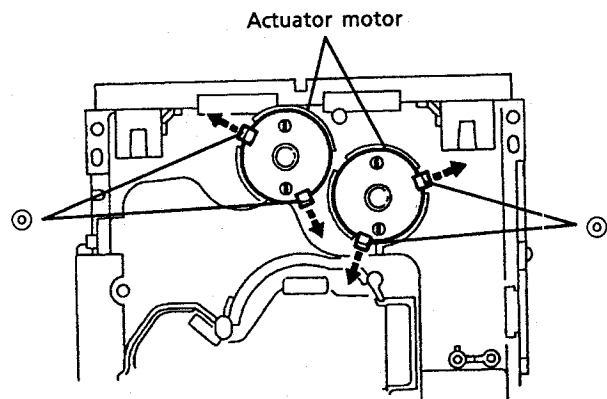

Fig. 38
5. Reverse the chassis ass'y and widen 4 poles ④ which secure both actuator motors to its arrows to remove the actuator motors. (See Fig. 38.)